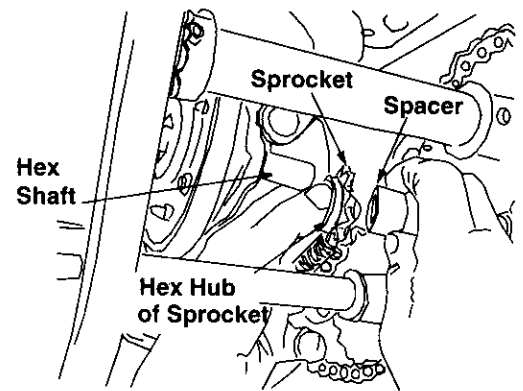

Figure 33
- Insert the hex shaft through the sprocket and the spacer. See Figure 33. Make certain that the chain engages both the large and the small sprocket.
NOTE: If the sprocket fell from the snow thrower while removing the hex shaft, place the sprocket on the hex shaft. Position the hex hub of the sprocket toward the friction wheel when sliding the sprocket on to the hex shaft. See Figure 33.